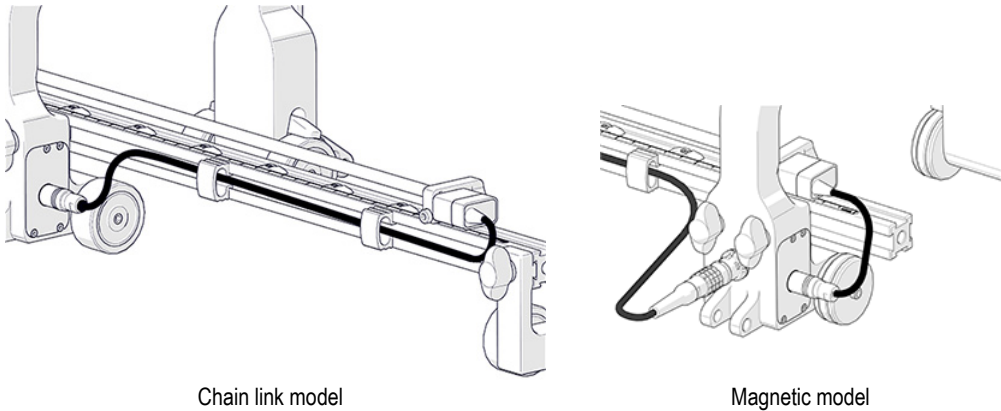

Figure 3-40 Connect the index encoder to the corrosion link
4. Route the cable along the frame bar using the cable clips (see Figure 3-40 on page 67).